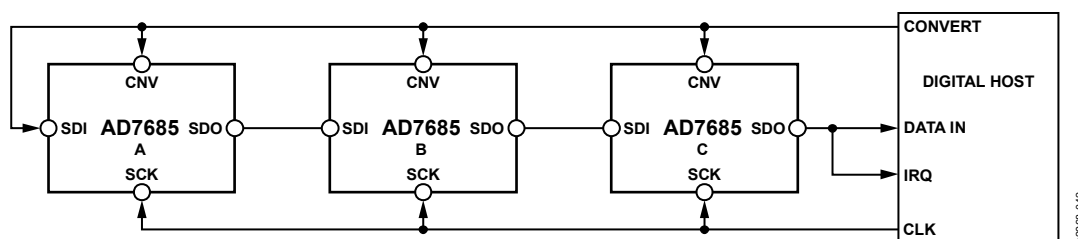
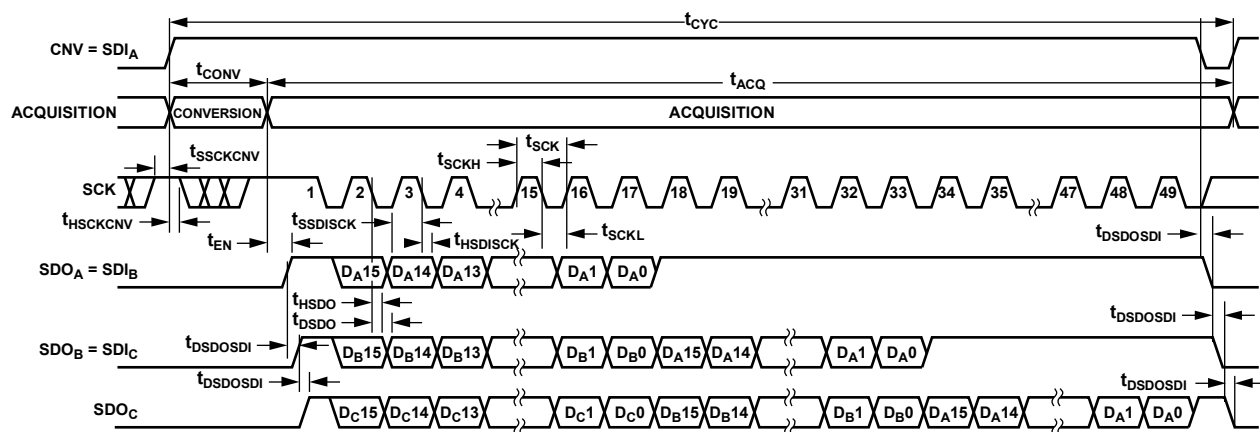

Figure 44. Chain Mode with BUSY Indicator Connection Diagram
Figure 45. Chain Mode with BUSY Indicator Serial Interface Timing
- In the chain mode, if SCK is high during the CNV rising edge (see Figure 45).
A connection diagram example using three AD7685s is shown in Figure 44, and the corresponding timing is given in Figure 45.
Figure 44) SDO is driven high. This transition on SDO can be used as a BUSY indicator to trigger the data readback controlled by the digital host. The AD7685 then enters the acquisition phase and powers down. The data bits stored in the internal shift register are then clocked out, MSB first, by subsequent SCK falling edges. For each ADC, SDI feeds the input of the internal shift register and is clocked by the SCK falling edge. Each ADC in the chain outputs its data MSB first, and  $16 \times N + 1$  clocks are required to readback the N ADCs. Although the rising edge can be used to capture the data, a digital host also using the SCK falling edge allows a faster reading rate and, consequently, more AD7685s in the chain, provided the digital host has an acceptable hold time. For instance, with a 5 ns digital host setup time and 3 V interface, up to eight AD7685s running at a conversion rate of 220 kSPS can be daisy-chained to a single 3-wire port.